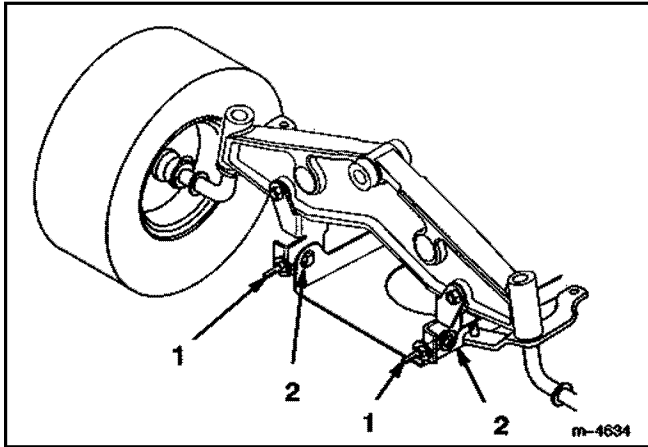

Figure 44 XL38pit2.TIF
- To adjust the front-to-rear pitch, loosen the front pivot plate mounting bolts slightly (Figure 44).